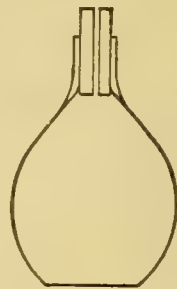

FIGURE 84. — EXCESS LIQUID ESCAPES THROUGH HOLE IN STOPPER.
55. **Bottle Method.** — The comparison of the weight of a liquid with the weight of an equal volume of water is readily made by the use of a specific gravity bottle, which is a glass-stoppered bottle, accurately constructed so as to contain a definite volume of liquid (Figure 84).